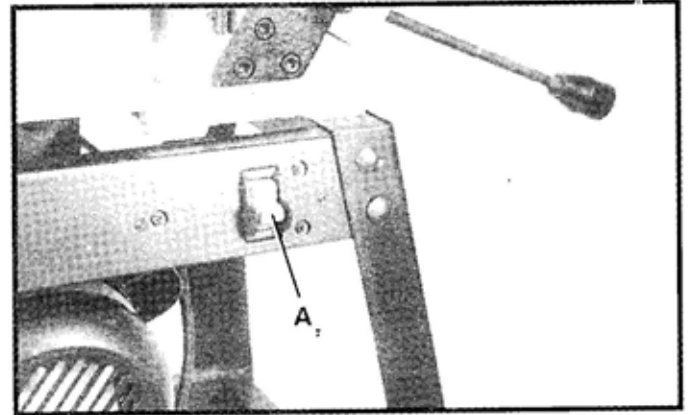

Fig. 33
The on/off switch (A) Fig.33, is located on the top side brace of the stand. To turn the machine "ON", move the switch (A) to the up position. To turn the machine "OFF", move the switch (A) to the down position.